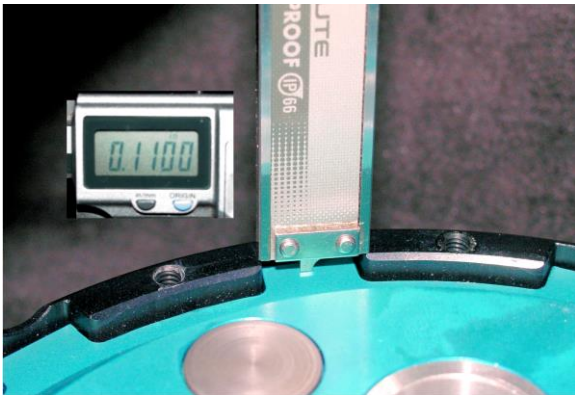
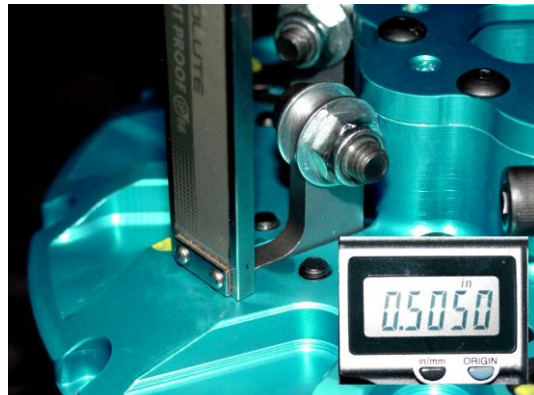

Fig. 3
Fig. 4
- C. Replace the hardened steel spacer that goes between the face of the clutch basket and the inner hub with the three (3) piece needle bearing spacer supplied with your unit. **Make sure the needle bearing faces the clutch basket and the large thrust washer contacts the inner hub.** Install the Gen II modified inner stock hub. Tighten the locking nut to the factory specification. Check to make sure you have the correct end play on your basket after tightening. If you don't have .003 to .006" end play clearance, the inner hub will not rotate when the nut on the input shaft is tight. If the basket has too much end play, it could cause damage to the clutch or engine.
- F. Install the pressure plate on top of the last fiber. The height from the top of the tang on the pressure plate to the top of the basket should be between 0.110"-0.120" (See Fig.3). Apply hand pressure to the extended puller, while measuring, to make sure the plate is tight against the fiber. This will give you an air gap below your arms to the buttons between 0.110"-0.120".
- G. Attach the hat assembly on the basket and tighten the ten (12) allen head cap screws to secure it.
- H. The air gap between the arms and the pressure plate buttons can be measured using the thin bottom section of a caliper. Stick the caliper rod into the slot opening just behind the arm (See Fig. 4) until it hits the top of the button on the pressure plate. Take a height reading to the top of the Gen II hat, this reading should be between 0.490"-0.510". This gives an air gap of 0.100"-0.120". It is better to start with an air gap of 0.100" to compensate for clutch wear. This technique can be used to maintain the air gap, after repeated runs, without removing any part of the clutch.